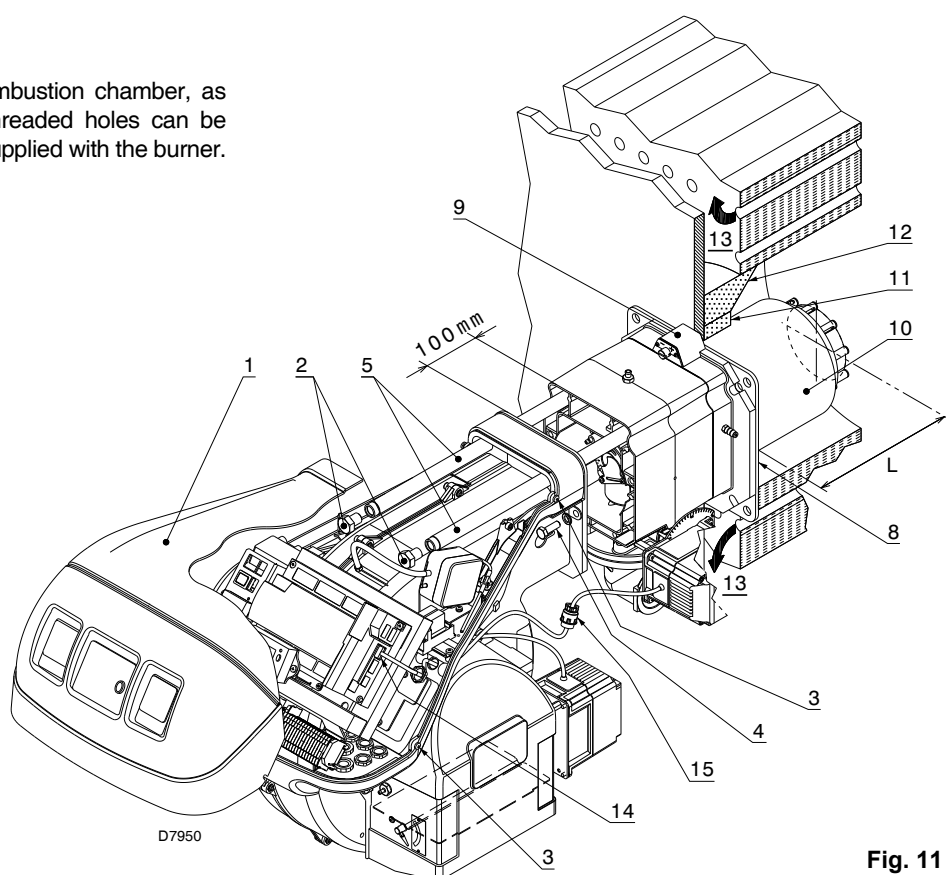

Fig. 11
For boilers with front flue passes 13) or flame inversion chambers, a protection in refractory material 11) must be inserted between the boiler refractory 12) and the blast tube 10). This protection must not compromise the extraction of the blast tube. See Fig. 11.
Separate the combustion head from the rest of the burner, Fig. 11. To do this, proceed as follows:
Once this operation has been carried out, fix the flange 9)(Fig. 11) to the boiler plate, interposing the insulating gasket 8)(Fig. 11) supplied.
- reassemble the burner on the guides 3) at about 100 mm from the pipe coupling 4) - burner in the position shown in Fig. 11;
- connect the plug of the servomotor 14) (Fig. 11) and tighten the cable grommet 15) (Fig. 11);